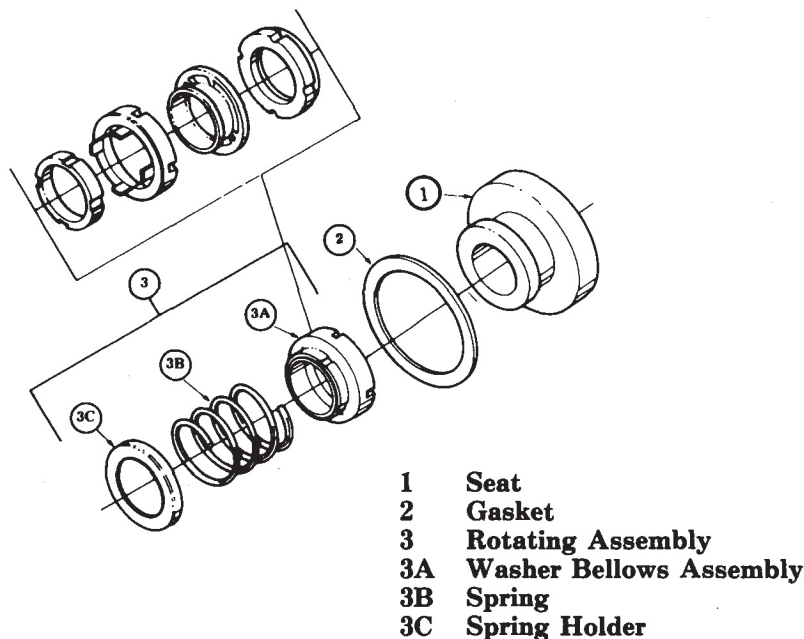
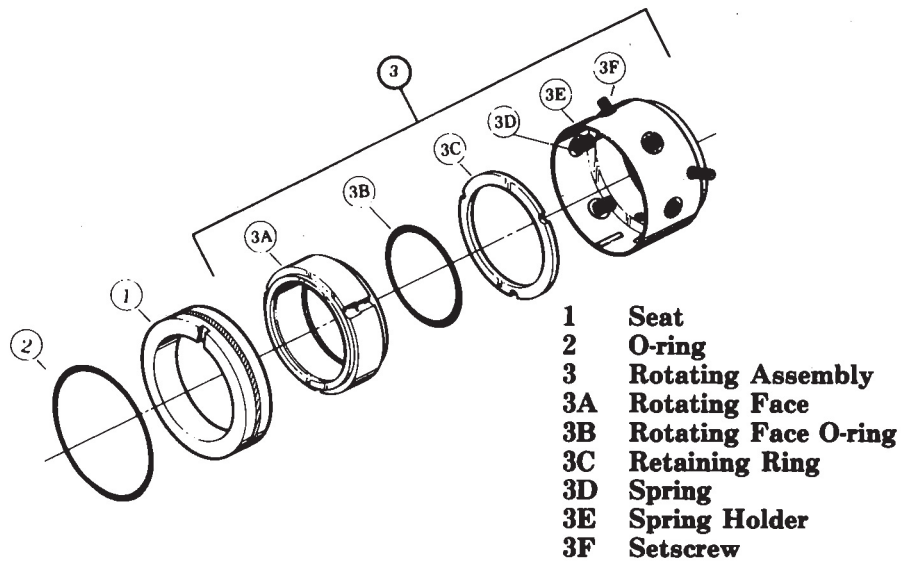
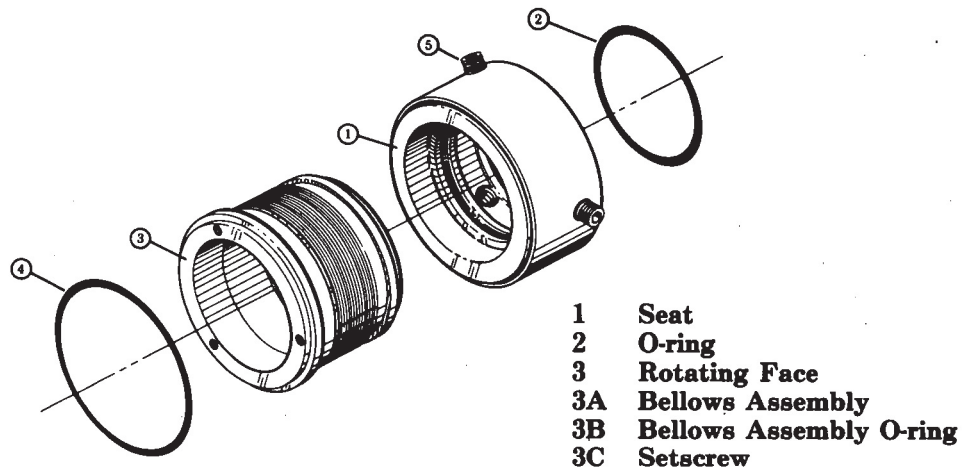

FIGURE 1. John Crane Type 21 Mechanical Seal
FIGURE 2. Borg-Warner Type Q Mechanical Seal
FIGURE 3. Borg-Warner Type BXQ Mechanical Seal
This instruction manual covers Series TA324N, rotor sizes 400 and 400P, IMO pumps. Because of the large number of operating conditions, it is necessary to have different construction and material combinations in order to provide the proper pump for specific job specifications. Standard TA324N pumps are provided with bronze housings (figure 4). For special applications, bimetal housings are provided (figure 7). Figures 5 and 6 are the same pump construction as figure 4 except for the use of different mechanical seals. TA324N pumps can be supplied with a John Crane Type 21 mechanical seal (figure 1, illustrated on figure 4), Borg Warner Type Q (figure 2, illustrated on figures 6 and 7) or Borg Warner Type BXQ (figure 3, illustrated on figure 5). The model of each pump is identified on the pump nameplate.
6. Remove gasket (011) from either flange of cover (002) or flange of case (001).
7. Remove bearing locknut (028) and bearing lockwasher (029) from power rotor (025) shaft.
8. Support cover (002) and press power rotor (025) from cover, using extreme caution to avoid damage to power rotor. Removal of power rotor (025) will also remove O-ring (036) and spacer (069). Remove O-ring (036) from groove of power rotor (025) shaft. If necessary for replacement, remove spacer (069) from power rotor (025) shaft.
9. Remove bolts (007) with lockwashers (008) and bearing retainer (004) from cover (002).
10. Remove ball bearing (034) from cover (002).
11. (Figure 4) Remove spacer (013), slinger (040) and spacer (035) from cover (002). Remove sleeve (032) from cover (002). Removal of sleeve (032) also removes spiral ring (039), and mechanical seal (038). Remove spiral ring (039) from groove of sleeve (032). Remove stationary seat (1, figure 1) and rotating assembly (3, figure 1) of mechanical seal (038) from sleeve (032). Remove gasket furnished with mechanical seal (038) from counterbore of cover (002).
12. (Figures 5, 6 and 7) Remove spacer (013) and slinger (040) from cover (002). Remove sleeve (032) from cover (002). Removal of sleeve (032) will also remove spiral ring (039), seat subassembly (082, figures 5 and 6) or (015, figure 7), mechanical seal (038) and spacer (081, figure 5). Remove spiral ring (039) from groove of sleeve (032). Remove seat subassembly (082, figures 5 and 6) or (015, figure 7) from sleeve (032). Removal of seat subassembly (082 or 015) will also remove mechanical seal stationary seat and O-ring (1 and 2, figures 2 and 3). Remove stationary seat and O-ring (1 and 2, figures 2 and 3) from seat subassembly (082 or 015). Remove O-ring (2, figures 2 and 3) from stationary seat (1, figures 2 and 3). Loosen setscrews (3F, figure 2 and 3C, figure 3), and remove mechanical seal rotating assembly (3, figures 2 and 3) from sleeve (032). If necessary for replacement, remove spacer (081, figure 5) from sleeve (032). Remove gasket (014) from counterbore of cover (002).
5. Install outer spiral rings (016) in grooves of inboard and outboard ends of case (001).
6. Install housing stop pins (022). Install O-rings (023) and plugs (024).
7. If removed during pump disassembly for replacement, install spacer (069) on power rotor (025) shaft next to step-cut shoulder of shaft.
8. (Figure 4) Install rotating assembly (3, figure 1) of mechanical seal (038) on sleeve (032) next to step-cut shoulder of sleeve. Install stationary seat (1, figure 1) of mechanical seal (038) on sleeve (032) next to rotating assembly. Install spiral ring (039) in groove of sleeve (032) to retain mechanical seal. Install O-ring (036) in groove of power rotor (025) shaft. Install assembled sleeve (032) on power rotor (025) shaft, using caution to avoid damage to O-ring (036). Install spacer (035), slinger (040), and spacer (013) on power rotor (025) shaft.
10. (Figures 5,6 and 7) Install rotating assembly (3, figures 2 and 3) on sleeve (032) next to step-cut shoulder of sleeve (figures 6 and 7) or installed spacer (081, figure 5). Tighten setscrews (3F, figure 2 and 3C, figure 3). Install O-ring (2, figures 2 and 3) on stationary seat (1, figures 2 and 3). Install assembled seat (1 and 2, figures 2 and 3) of mechanical seal (038) on seat subassembly (082, figures 5 and 6) or (015, figure 7), ensuring that spring pin (084, figures 5 and 6) or (018, figure 7) engages slot of seat (1, figures 2 and 3). Install assembled seat subassembly (082, figures 5 and 6) or (015, figure 7) on sleeve (032) next to mechanical seal rotating assembly. Install spiral ring (039) in groove of sleeve (032) to retain mechanical seal. Install O-ring (036) in groove of power rotor (025) shaft. Install assembled sleeve (032) on power rotor (025) shaft, using caution to avoid damage to O-ring (036). Install slinger (040) and spacer (013) on power rotor (025) shaft.
11. Slide ball bearing (034) on power rotor (025) shaft. Install bearing lockwasher (029) and bearing locknut (028) on power rotor (025) shaft. Tighten bearing locknut (028) to push ball bearing (034) onto power rotor shaft until bearing is properly seated.